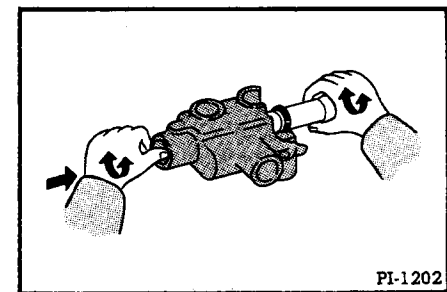

Fig. 127 Pushing Spool Through Seal
10. Again insert the special tool into the spool housing, into the front this time, and with a twisting motion carefully push the tool through the new seal until it is stopped by the spool shoulder. With a twisting motion, push the spool (from the back) against the special tool (Figure 127), until 1/4" of the polished surface of the spool remains exposed at the front of the valve. Remove the special tool from the front of the valve.